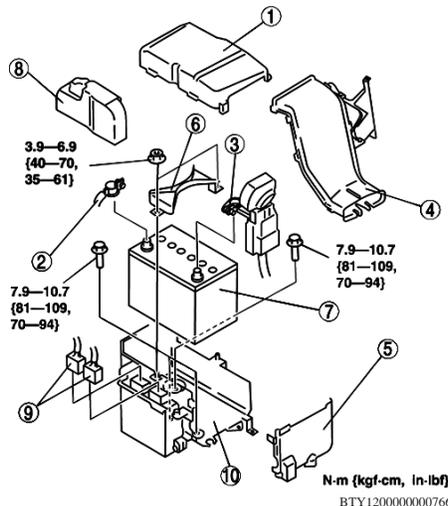

Fig. 2 Battery removal
3. Remove battery ground cable (2), **Fig. 2**.
4. Remove positive battery cable (3), **Fig. 2**.
5. Remove battery duct (4), **Fig. 2**.
6. Remove battery box (5), **Fig. 2**.
7. Remove battery clamp (6), **Fig. 2**.
8. Remove battery (7), **Fig. 2**.